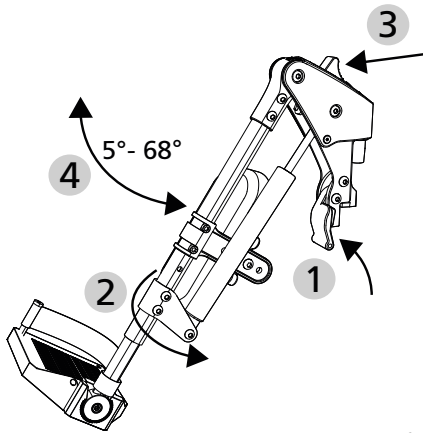

fig.53
When attaching the leg rest to the wheelchair, proceed in the same way as with a standard leg rest (see the wheelchair user manual). To fold the leg rest, move the locking lever forwards whilst rotating the leg rest to the side (1/2, fig. 53).
1. Press the release lever for the pneumatic spring forwards (3/4, fig. 53). The knee angle falls from 68° to 5° as long as the release lever is kept pressed.
4. Press the release lever forwards and push the leg rest down at the same time to increase the knee angle (fig 53).